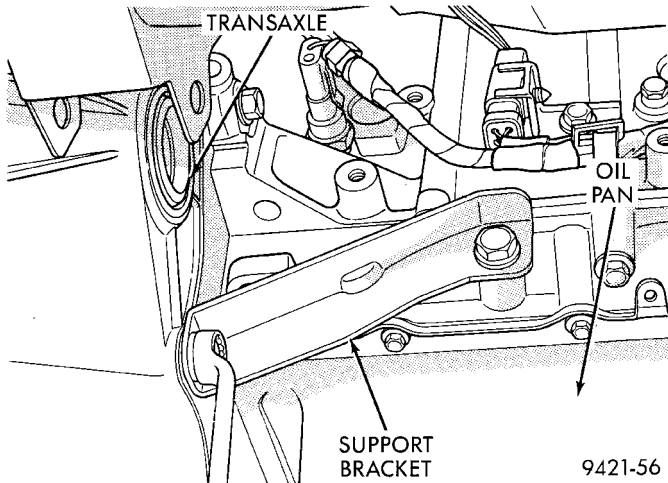

Fig. 37 Bracket Removal
(14) Remove transaxle to rear lateral bending strut from engine and transaxle (Fig. 37).